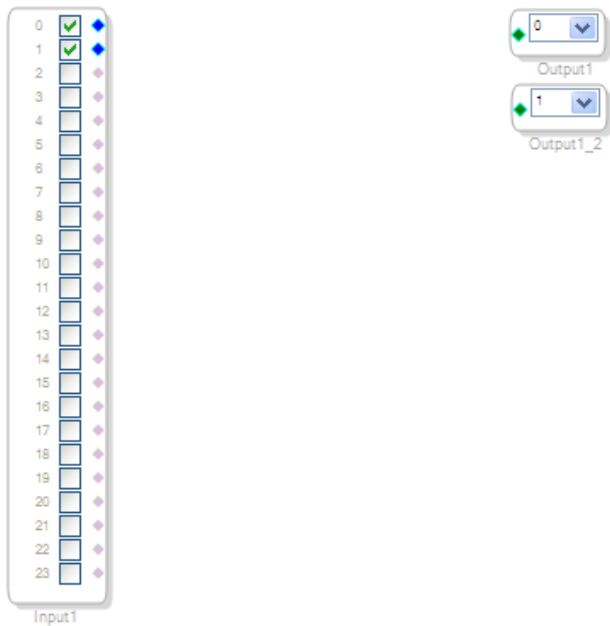

Figure 23. Stereo Input and Output
- b. Then press **Ctrl + V** to paste the copy of the cell. There should now be two output cells, as shown in Figure 23.